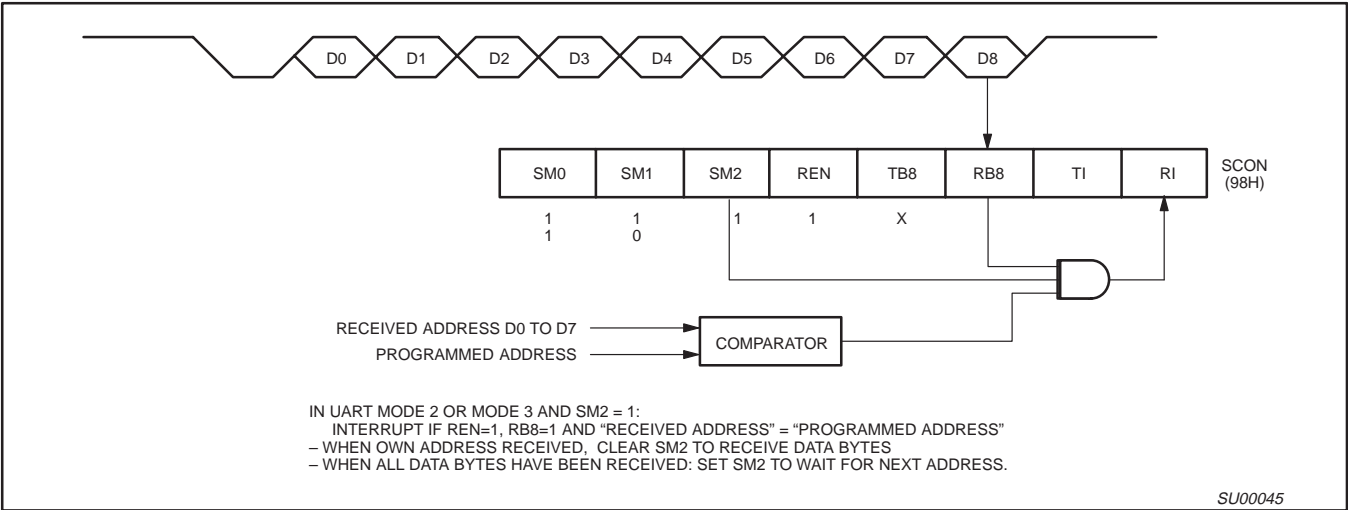

Figure 9. UART Multiprocessor Communication, Automatic Address Recognition
Automatic Address Recognition is a feature which allows the UART to recognize certain addresses in the serial bit stream by using hardware to make the comparisons. This feature saves a great deal of software overhead by eliminating the need for the software to examine every serial address which passes by the serial port. This feature is enabled by setting the SM2 bit in SCON. In the 9 bit UART modes, mode 2 and mode 3, the Receive Interrupt flag (RI) will be automatically set when the received byte contains either the "Given" address or the "Broadcast" address. The 9 bit mode requires that the 9th information bit is a 1 to indicate that the received information is an address and not data. Automatic address recognition is shown in Figure 9.